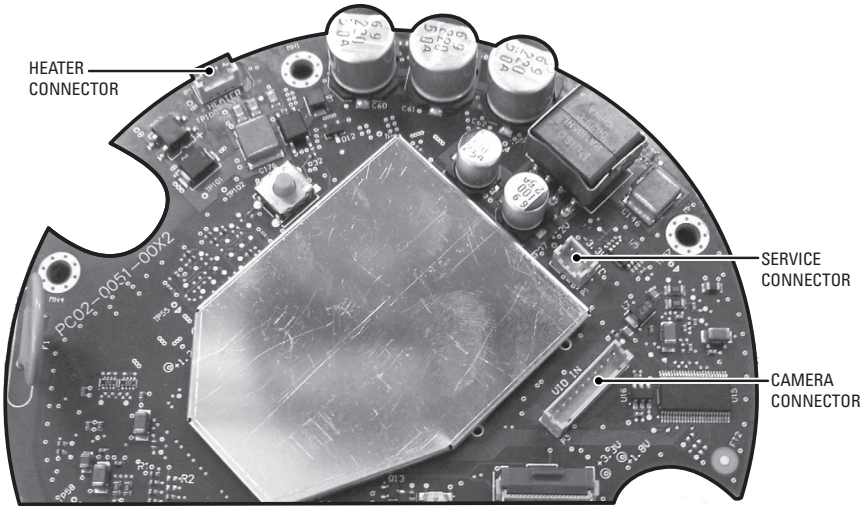

Figure 16. Back Box Connectors
1. Plug the camera (10-pin), heater board (4-pin), and service (3-pin) connectors into the back box (refer to Figure 16).